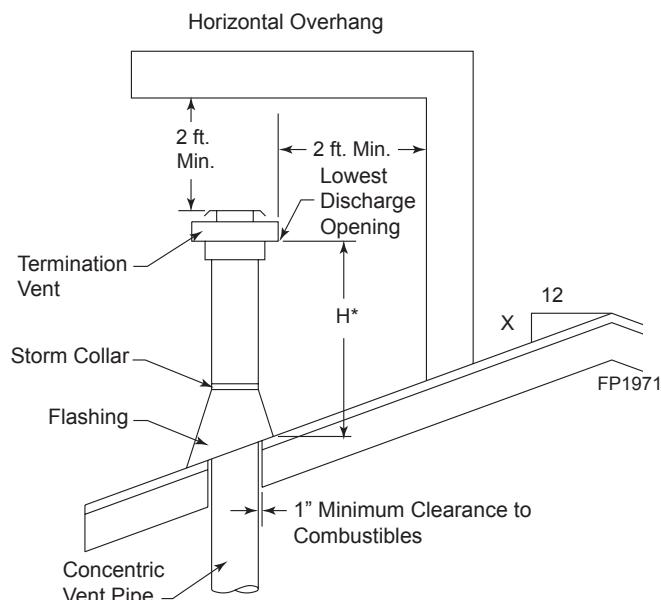

Figure 39 -
- For the minimum height of the vent above the highest point of penetration through the roof refer to *Page 23*, *Figure 39*.